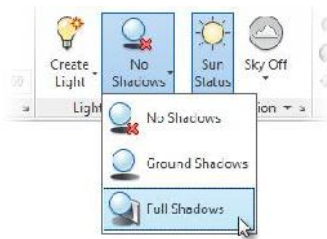

FIGURE 17.16: Choosing the Full Shadows option
2. In the Lights panel, click the down arrow under the No Shadows icon and choose Full Shadows from the flyout menu, as shown in Figure 17.16.